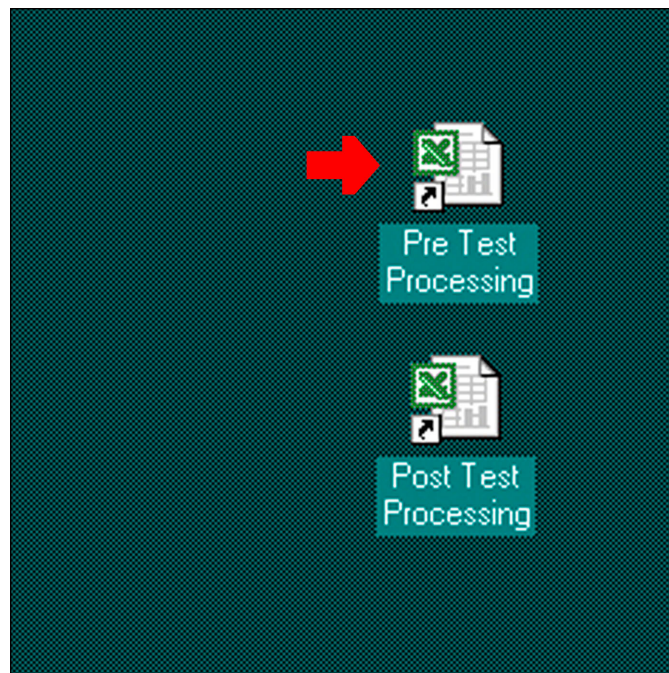

Figure 1
- 7.7.1 Double-click the "Pre Test Processing" icon. See the arrow in Figure 1.